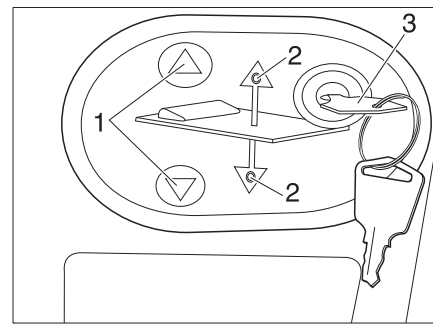

Fig. 163 Operating panel for the electrical pull-down bed
- Insert the key (Fig. 163,3) into the operating panel.
- Press the  or  (Fig. 163,1) button and keep it pressed. The respective LED (Fig. 163,2) lights up and the pull-down bed moves down or up.
- When the desired position has been reached, release the  or  (Fig. 163,1) button again. The respective LED (Fig. 163,2) extinguishes.
- Remove the key (Fig. 163,3).